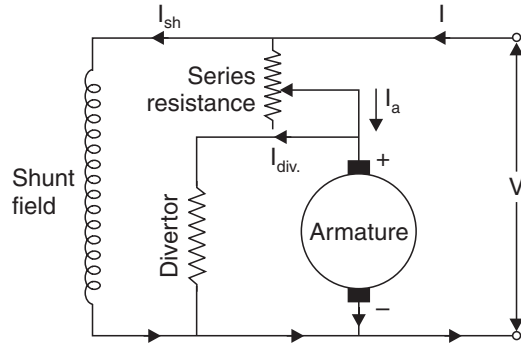

Fig. 88. Use of diverter across the armature for speed control of D.C. shunt motor.
- This method is *very wasteful, expensive and unsuitable for rapidly changing load*, because for a given value of R_t the speed will change with load. A more stable operation can be obtained by using a *divertor across the armature* (Fig. 88) in addition to armature control resistance. Now, the changes in armature current due to changes in the load torque *will not be so effective* in changing the potential difference across the armature and hence the speed of the armature.